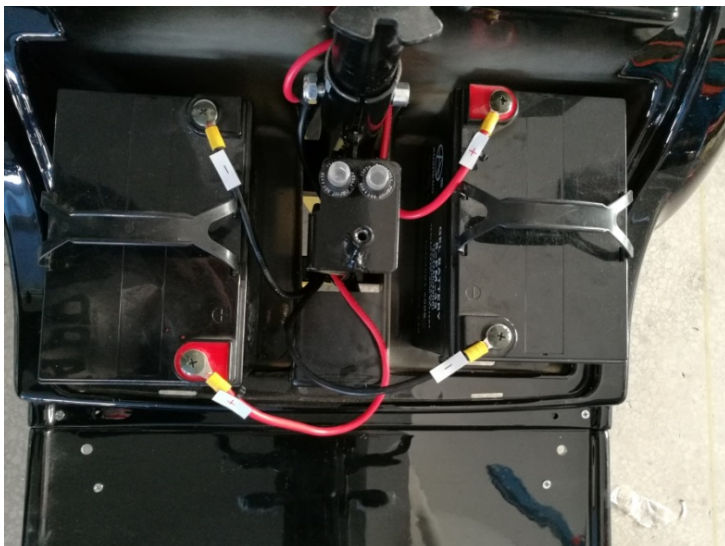

Fig. 25: Connecting the batteries
8. Connect both battery harnesses (Figure 25 below).